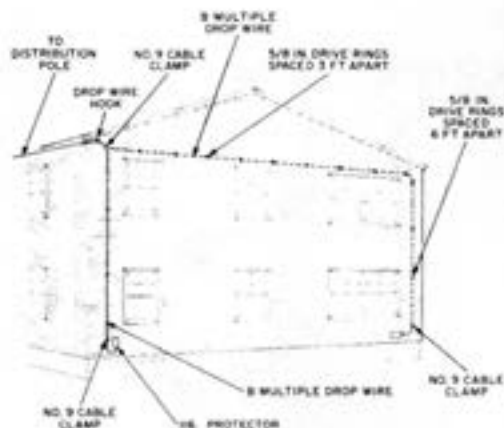

Fig. 6—Typical Wire Run on Building
- (1) Place multiple drop wire along proposed building run from wire terminal or protector to first attachment (see Fig. 6).